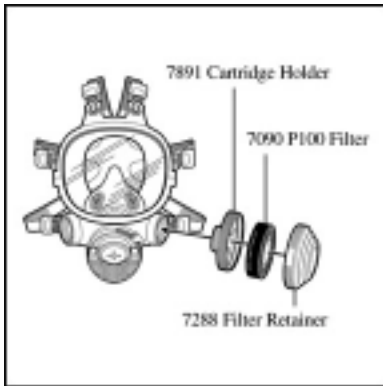

Fig. 8
2. When used alone, the P100 Filter 7090 must be placed with the gasket facing the facepiece. Secure the filter with the 3M™ Retainer 7288. (Fig. 8)